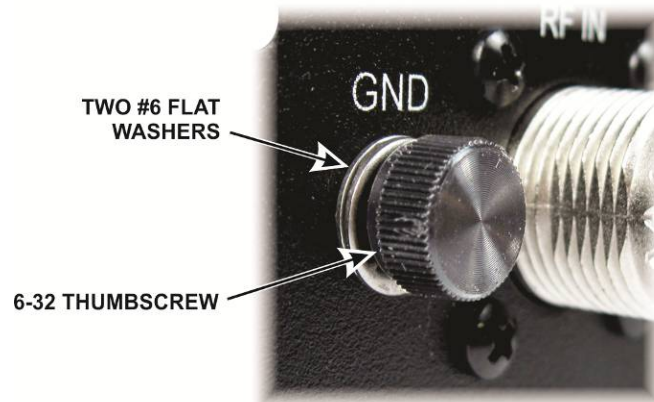

Figure 5. Installing the Ground Thumb Screw on the Rear Panel.
- Place two #6 flat washers on the black thumbscrew and thread it into the threaded bushing GND next to the RF IN connector on the rear panel as shown in Figure 5.